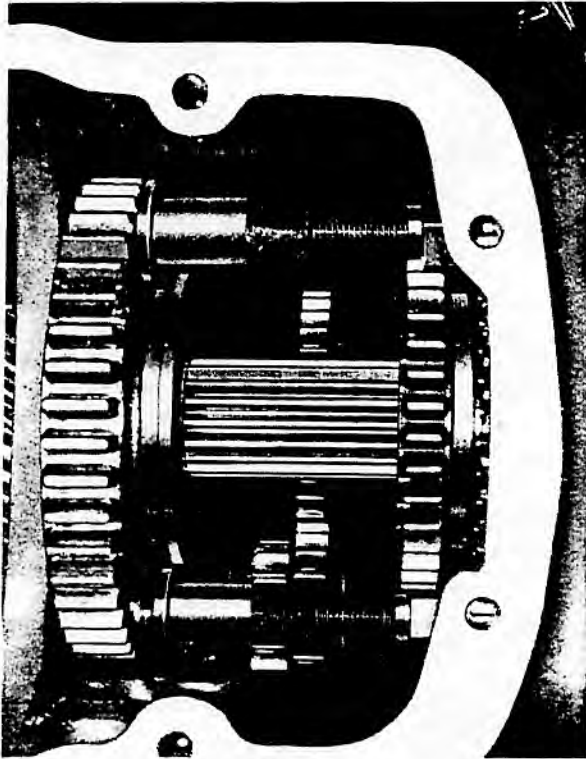

FIG. 15
12. Slide low speed gear forwards against centre flange of transmission case, and intermediate and high gear rearwards against rear flange and wedge gears apart with suitable piece of bar or tube. (See Fig. 15).